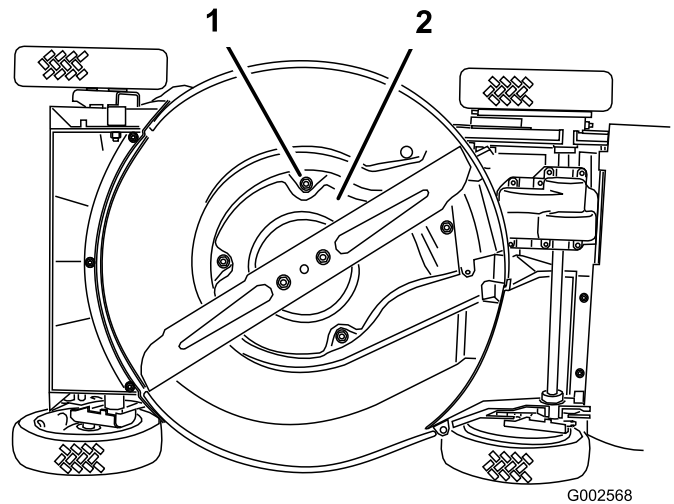

Figure 38
6. Remove the 4 screws that hold the shield in place (Figure 38)..